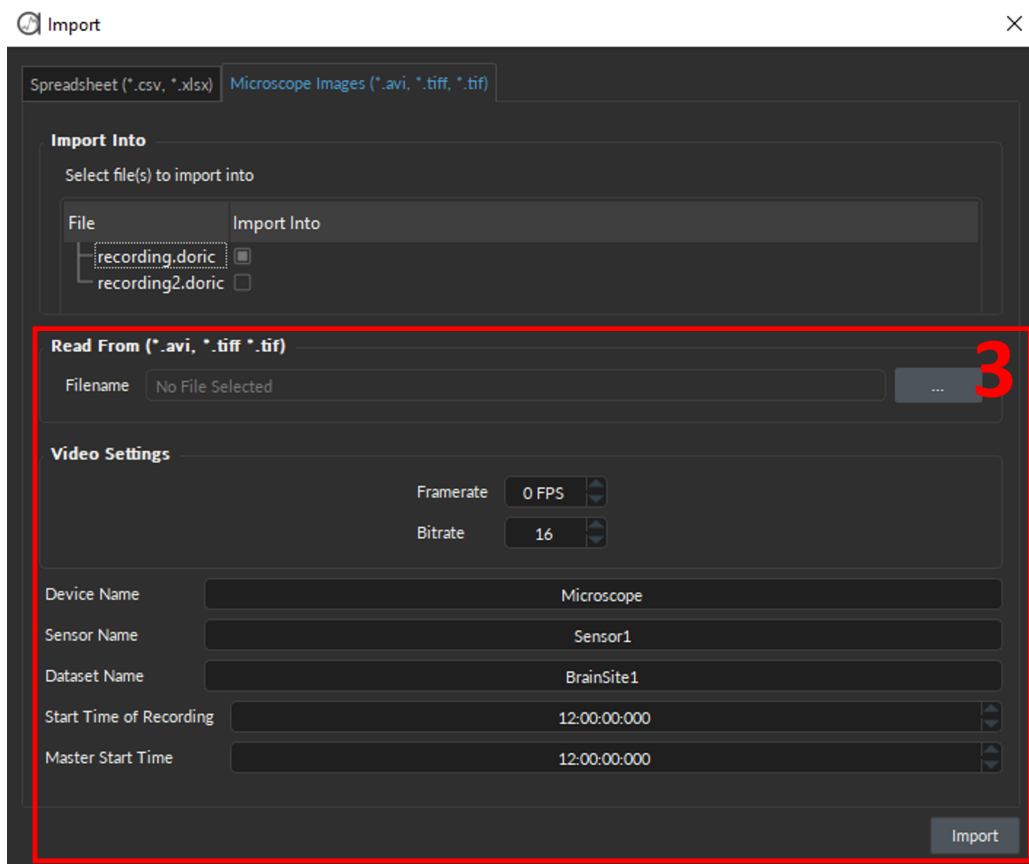

Figure 12.19: Import, Microscope-specific parameters
3. The **Microscope Image** specific parameters in Fig. 12.19 are identical to the parameters details in Section 12.2.2.2.